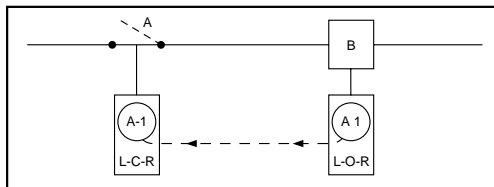

Figure 2
**Sample Application—2** (see Figure 2)